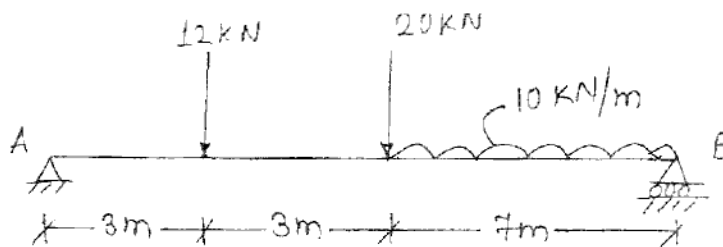

FIG. 6
8. Draw SFD and BMD for the Beam shown in FIG. 6.